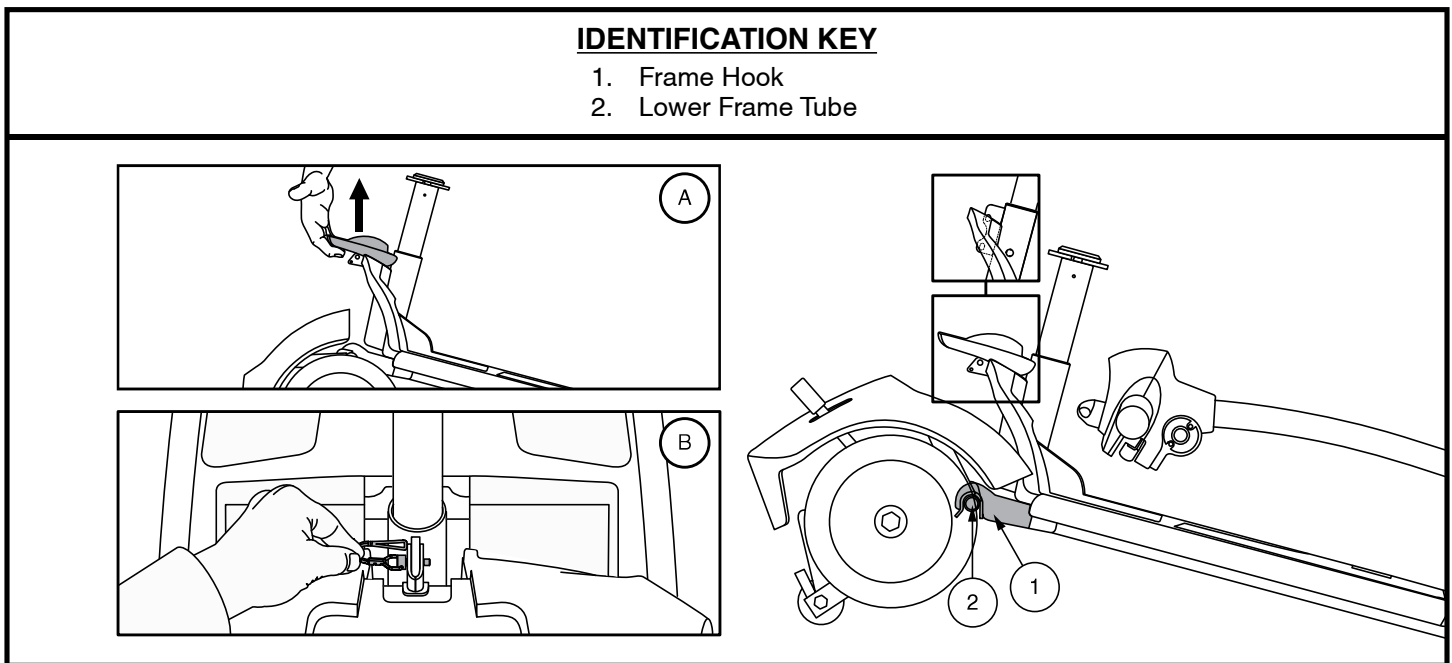

Figure 33. Frame Release Lever (Style A) and Frame Release Lock-up Pin (Style B)
4. Slowly separate the two sections of the Travel Scooter. See **figure 33**.
NOTE: Before attempting assembly, tilt the rear half of the Travel Scooter slightly back on the anti-tip wheels as shown in figure 33.
1. Use the frame release lever (or the seat post for models 36, 336, 83, and 84 only) to lift the front section as you align the frame hooks of the front section with the lower frame tube of the rear section. See **figure 33**.
2. Once the frame hooks are over the lower frame tube, lower the front section and pivot the rear section simultaneously. This will engage the frame lock-up automatically for models 39, 40, 44, 40LX, 40X, 44X, 40E, 44E, 44LX, 49, 50LX, 50LXLIT, 53, 53HD, 54, 54LX, 54LXLIT, 54HD, 66, 67, 73, 74, and Jazzy ZTS. For models 36, 336, 83, and 84, you will also need to reinstall the frame lockup pin to complete the body assembly. See **figure 33**.